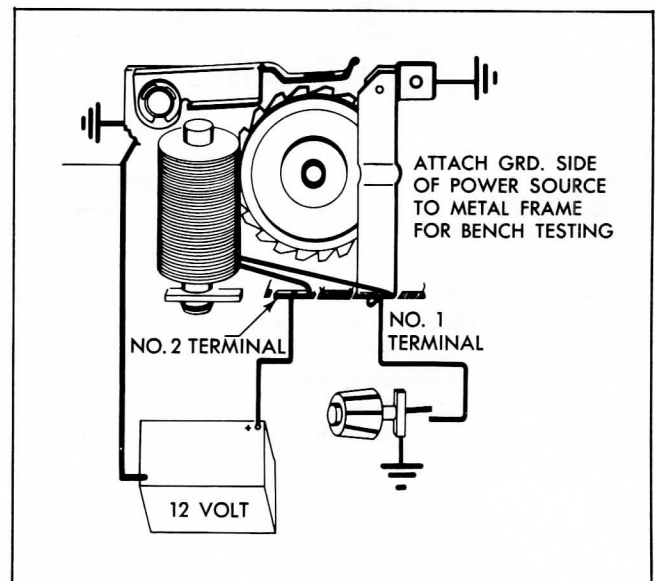

Fig. 12-54 Pump Wiring Circuit—Tempest and Firebird
Depressing the dash switch washer button closes the washer pump relay circuit to ground. (Refer to Fig. 12-54).
4. Tempest models - If correct voltage was found in Step No. 2, connect a jumper wire from terminal No. 1 to ground (Fig. 12-54) and operate wiper. If washer relay "click" is heard and pump functions correctly, a defective dash switch or an open circuit between washer pump and dash switch is indicated.
power supply to washer pump as shown in Fig. 12-54. Connect jumper wire from terminal No. 1 to ground. Turn ratchet pawl to the position shown in Fig. 12-54. Ratchet pawl should be pulled toward relay pole and engage ratchet teeth. Failure to do as described above indicates an open relay coil.